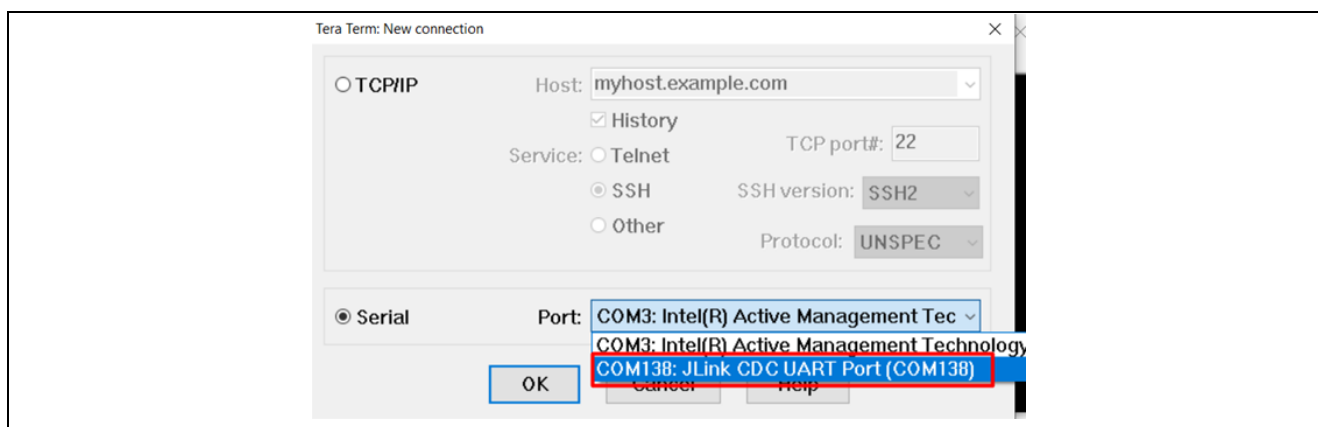

Figure 61. Example of Connect to Tera Term terminal
1. Open Tera Term (Figure 61).